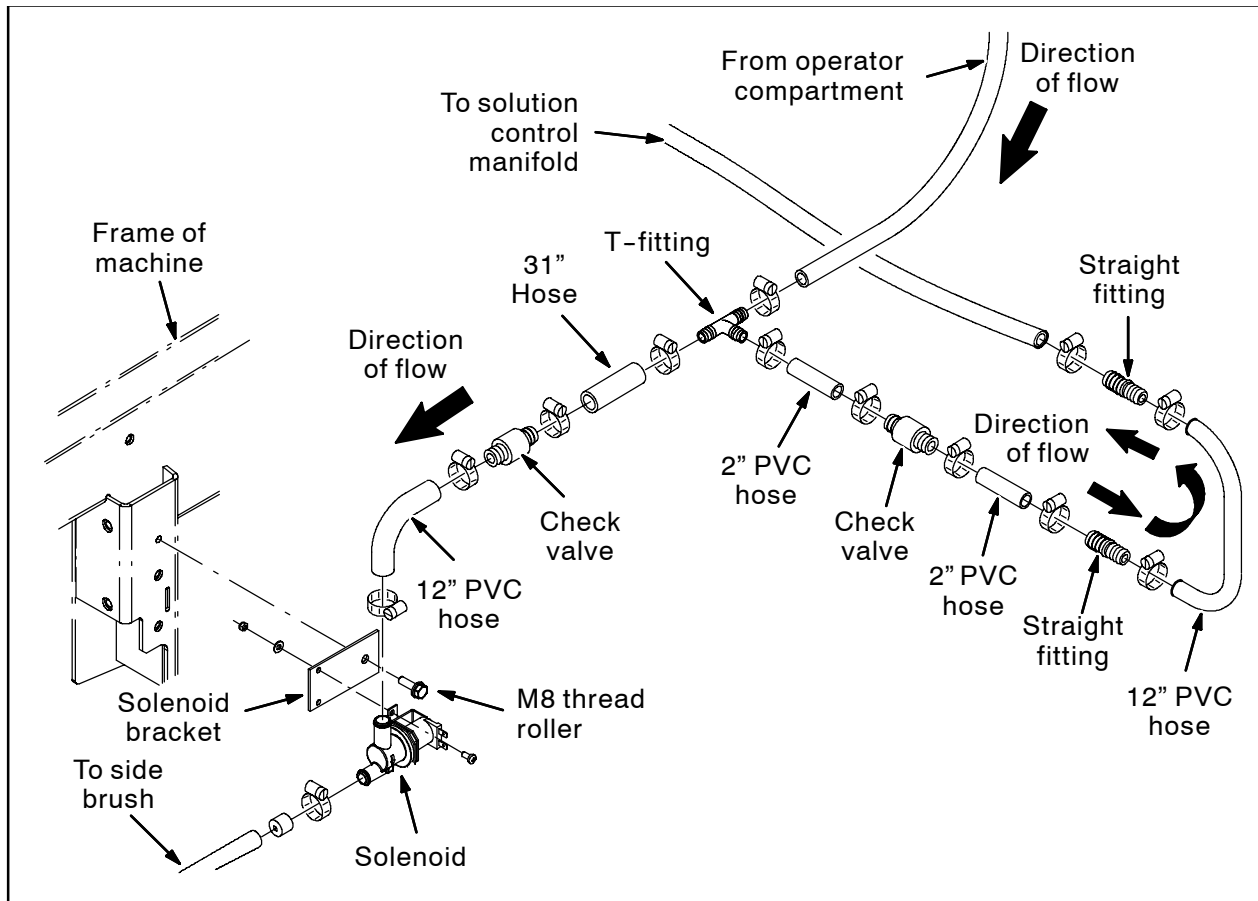

FIG. 11 - Machines With Optional Side Brush
26. Use two hose clamps to install a check valve between the two 31" and 12" PVC hoses. Note the direction of flow. Refer to Fig. 11.
27. Use two M5 pan screws, two flat washers, and two M5 hex nuts to install the solenoid onto the solenoid bracket. Refer to Fig. 11.
28. Use a M8 thread roller to install the solenoid / solenoid bracket onto the frame of the machine. Refer to Fig. 11.
29. Use a hose clamp to install a t-fitting onto the 60" PVC hose. Refer to Fig. 11.
30. Assemble the check valve, straight fittings, 12" hose and 2" hoses as shown in Fig. 11. Note the direction of flow.
31. Use a hose clamp to connect the previously assembled hose assembly to the t-fitting installed on the 60" PVC hose. Refer to Fig. 11.
32. Route the end of the 60" PVC hose with the t-fitting / additional hose assembly from the operator compartment and down to the scrub head. Refer to Fig. 11.
34. Use a hose clamp to connect the additional hose assembly to the solenoid. Refer to Fig. 11.
35. Use a hose clamp to connect a 20" PVC hose to the solenoid. Refer to Fig. 11.